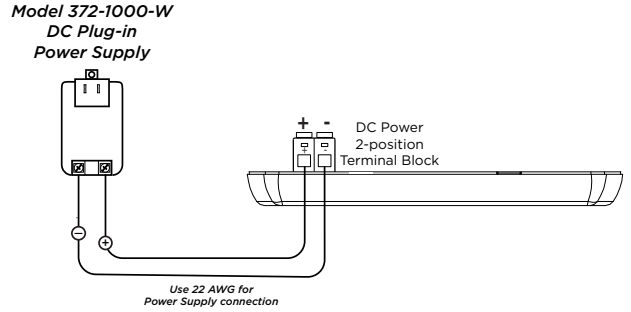

Figure 2: 1117 Wireless Expander Side View
2. Connect the DC terminal (-) to the negative terminal on the power supply. See Figure 2.